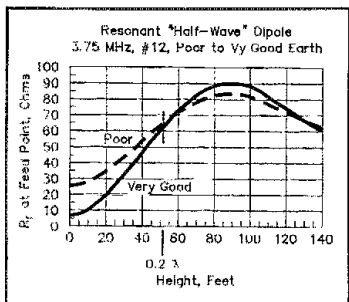

Fig 6—As in Fig 4, but for 3.75 MHz and using more appropriate #12 wire.
This material proved to be most ideal in three important categories. First, its RF attenuation properties are excellent. Second, steel wool is mechanically pliable, and a distinct pleasure to use. Third, these fine steel wool pads may be purchased at very reasonable prices from almost any hardware store. Fig 6 shows the balun design.
Fig 6—Curt Wilson's budget 1:1 choke balun adopts a tried-and-true balun design for outdoor use. Hints and Kinks adds two comments: (1) Since UHF-series coaxial connectors are not designed to be weatherproof, you can avoid having to seal your balun's jack and cable plug against the elements by using N connectors instead of SO-239s and PL-259s; and (2) especially in closed compartments, caulking compounds that liberate acetic acid vapor as they cure can severely corrode susceptible metals (such as steel wool), so avoid using such products when you build your balun.